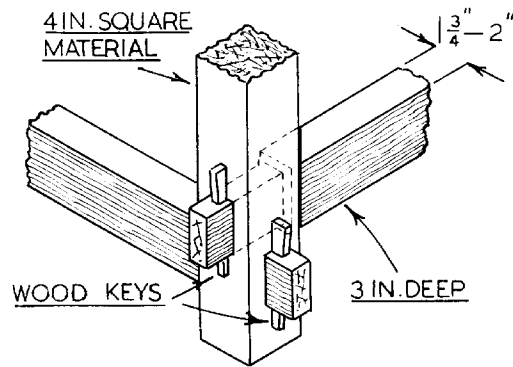
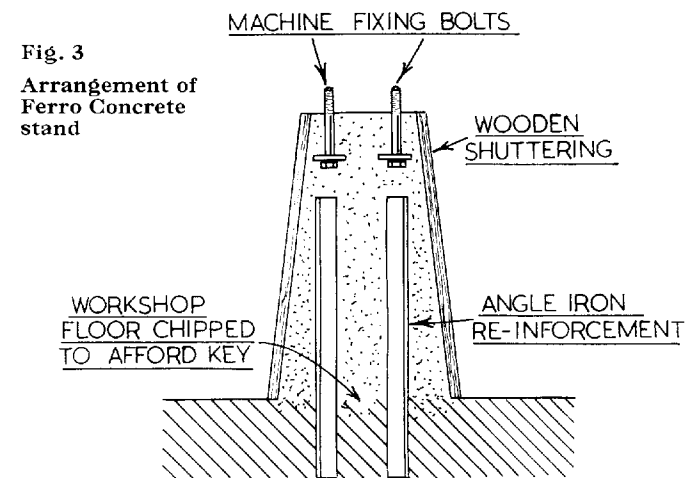

Fig. 1 Detail of Bench Lower Members
Fig. 3
This was an important alternative provision, and one that had a profound bearing on the installation generally. Before mounting the shaper then, one must first decide if it is to be used with the operator standing or, alternatively, with him sitting. For the first position a mounting on a work bench of normal height is, for the most part, quite satisfactory. To obtain a comfortable working height when sitting however, it is possible to make a "dummy run" with the machine set up on a wooden box and packed up till the situation is satisfactory. A firm mounting can then be constructed to suit the conditions so found. Wooden benching to support machines should at all times be amply strong and well braced. If the bench is free standing the legs should be made from 4-in. square material and the top from 9 in. by 2 in. deal planking. The framing, tenoned into the leg mortices, should be from 1 $\frac{3}{4}$ in. to 2 in. thick to allow ample room for the wooden keys that hold the frame together, as depicted in the illustration Fig. 1.
many readers. The author can assure them, however, that it is a very practical solution to the problem of providing adequate support for a shaping machine, having been used by him to mount the shaper illustrated in Chapter I, Fig. 1. Obviously a ferro-concrete stand can only be used when the floor of the workshop itself is also made of concrete, or one is prepared to construct a special foundation for the stand. Assuming that the floor is made of concrete then the surface needs first to be broken up by chipping with a cold chisel, this will provide a key for the new concrete. Next a simple re-inforced structure of iron pipe or old angle iron will have to be set up and shuttering assembled to hold the newly poured concrete. The method is depicted in the illustration Fig. 3.
A very good example of a purpose-made vice is that fitted to the shaper in the author's workshop. This is depicted in the illustration Fig. 1. The vice itself is mounted on a base plate (18) that can be secured to the work table by means of four T-slot bolts. A key (20) is secured to the underside of the base engaging a keyway machined in it as well as registering with the middle T-slot of the table itself. In this way the vice has a datum that will ensure accurate replacement when for any reason, the vice is removed from the table.